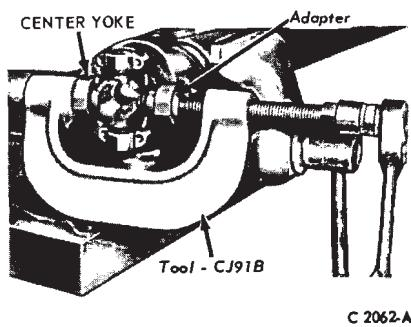

FIG. 4—Partially Pressing Bearing from Center Yoke
3. Position the tool as shown in Fig. 4. Thread the tool clockwise until the bearing protrudes approximately $\frac{3}{8}$ inch out of the yoke.